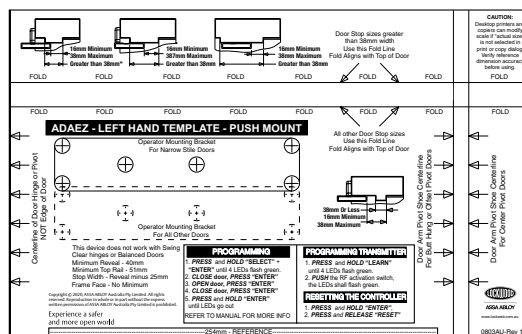

Figure 3
1. Select right hand or left hand template and become familiar with information. (Figure 3)